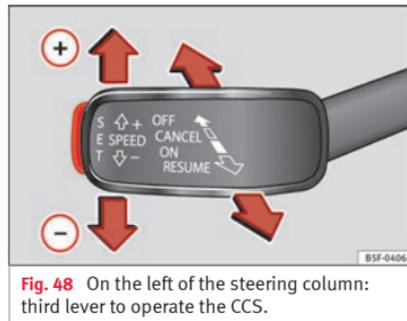

Fig. 48 On the left of the steering column: third lever to operate the CCS.
- Switching on the CCS: move the third lever to **ON** »» **Fig. 48**. The system switches on but it does not control the speed as no speed has been programmed.
- Activating the CCS: press the **SET** »» Fig. 48 button. It memorises and maintains the current speed.
- Temporarily switching off the CCS: move the lever to **CANCEL** »» Fig. 48 and release it or press the brake pedal. The cruise control system is switched off temporarily.
- Reactivating the CCS: move the lever to **RESUME** »» Fig. 48 and release it. The memorised speed is saved and controlled again.
- Switching off the CCS: move the third lever to position **OFF** »» Fig. 48. The system is disconnected and the memorised speed is deleted.